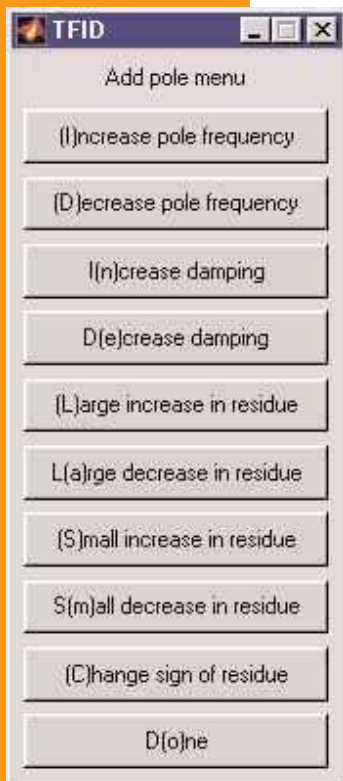

Figure 12. Add pole menu.
6.8.1 Add pole menu (Figure 12): allows the frequency, damping, and residue of the pole to be varied.